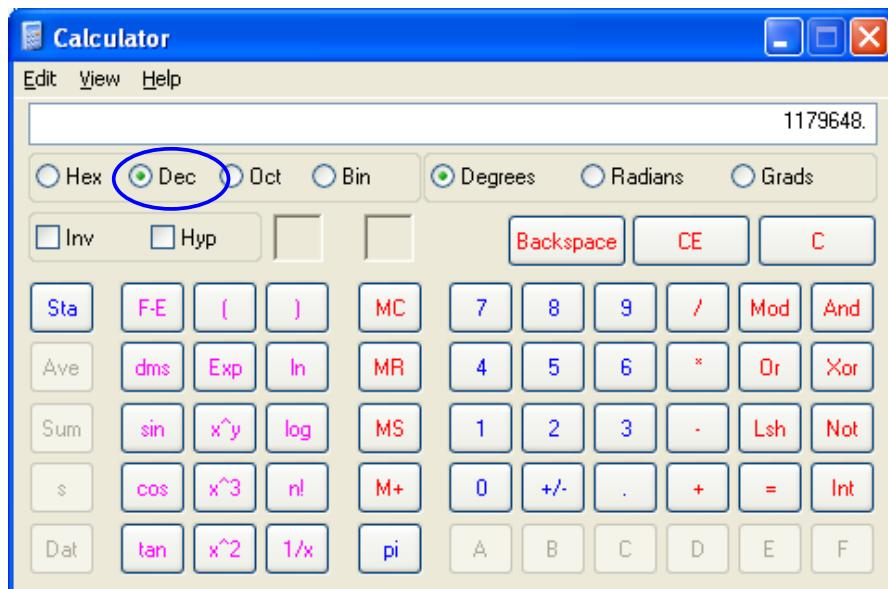

Figure 143
- Open your calculator (View Scientific) and type the number and then select Hex (See Figure 143)